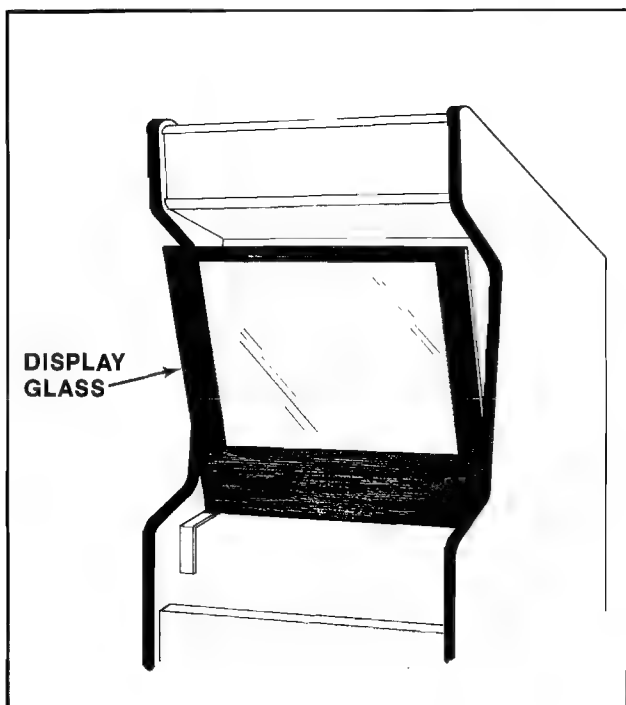

Figure 16 Removing display glass — Upright game
- Grasp the main-display-glass in the bottom center, lift up slightly and pull it toward you about an inch, let it down just far enough so you can get hold of its top edge with your other hand and lift it out of the game. See Figure 16.